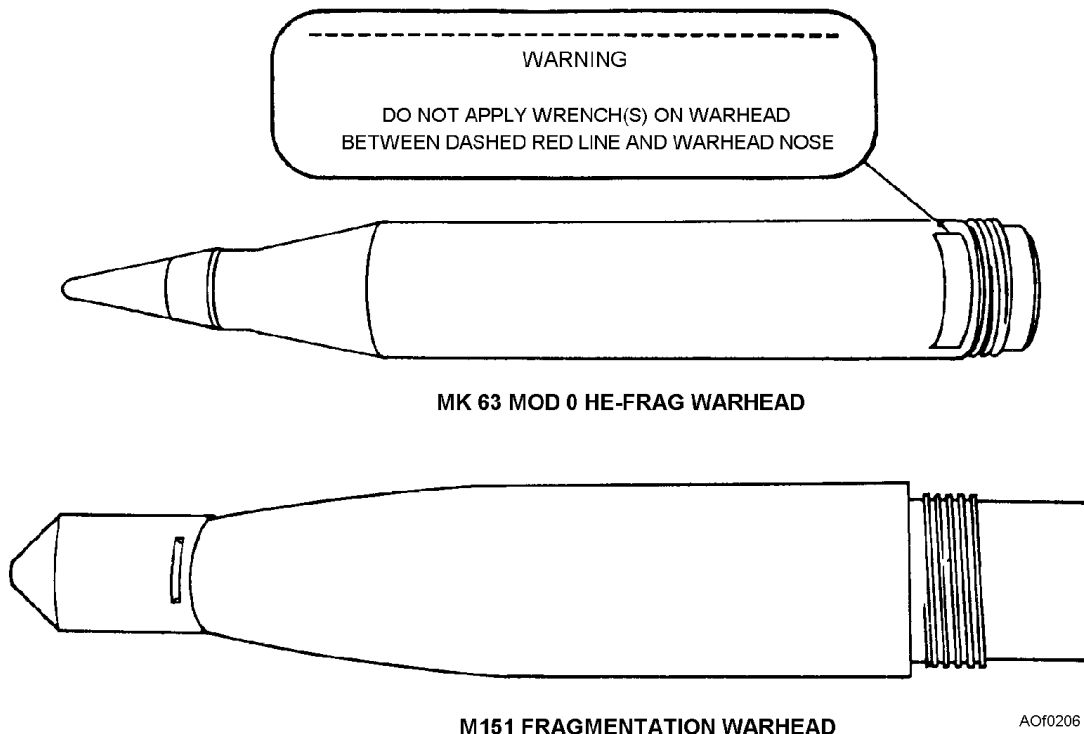

Figure 2-6.—High-explosive fragmentation (HE-FRAG) warheads.
**HE-FRAG WARHEADS.**—High-explosive fragmentation (HE-FRAG) warheads (fig. 2-6) are used against personnel and light material targets, such as trucks and parked aircraft. Upon detonation, a large quantity of metal fragments accelerates to a high